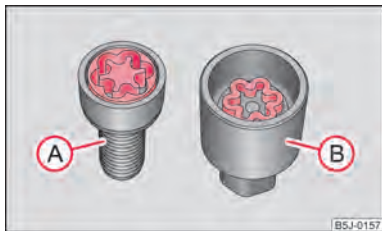

Fig. 145 Illustration image: Safety wheel bolt with adapter
- Insert the adapter (B) with its toothed side into the inner tothing of the head of the safety wheel bolt (A) ⇒ fig. 145.
- Insert the wheel wrench fully onto the adapter (B).